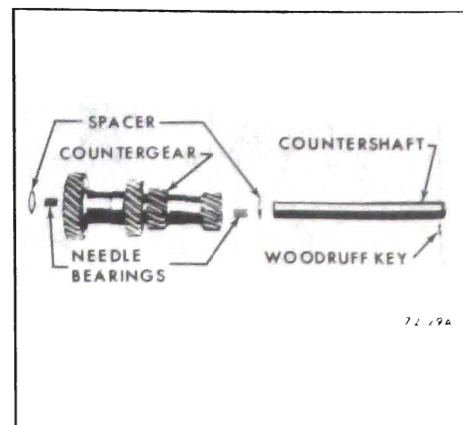

Figure 72-29 - Exploded View of Countershaft
2. From each end of countershaft, remove spacer and 27 needle bearings. See Figure 72-29.
2. From each end of countershaft, install 27 needle bearings and spacer. See Figure 72-29.